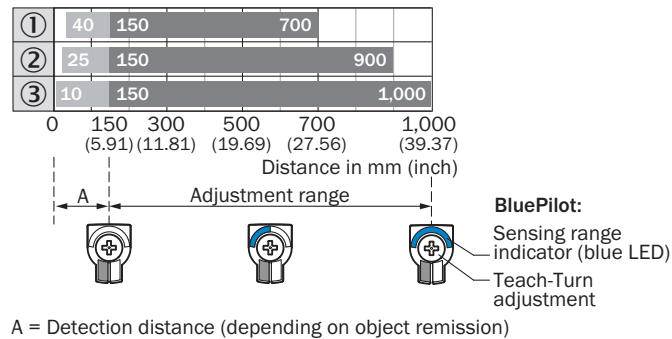

Figure 3: Bar graph 1
Check the application conditions: Adjust the sensing range and distance to the object or background as well as the remission capability of the object according to the corresponding diagram [figure 2, figure 3] (x = sensing range, y = minimum distance between set sensing range and background [white 90%]). Remission: 6% = black ①, 18% = gray ②, 90% = white ③ (referring to standard white as per DIN 5033). We recommend that the adjustment be performed with an object of low remission.